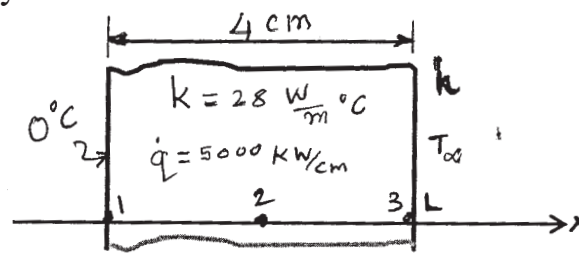

Figure : 1 Q.5(b)
b) A large plate of thickness $L = 4\text{cm}$ and thermal conductivity $k = 28\text{ W/m}^\circ\text{C}$ in which heat is generated uniformly at a constant rate of 5000 kW/cu.m . One side of the plate is maintained at zero degree centigrade by iced water while other side is subjected to convection to an environment at $T = 30^\circ\text{C}$ with a heat transfer co-efficient of $h = 45\text{ W/sq.m.}^\circ\text{C}$. as shown in the figure 1. Consider 3 equally spaced nodes, two at boundaries and one in the middle. Calculate the nodal steady state temperature of the plate by finite difference method. [10]